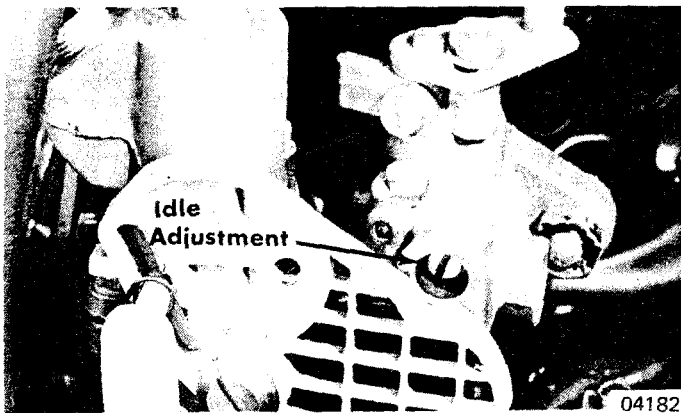

Figure 44. Low Speed Adjustment - 200-110-75-60-40-39
3. With the motor running at idle speed while in forward gear, turn the low speed mixture adjusting needle counterclockwise until motor starts to "load-up" or fire unevenly due to over-rich mixture. (Figure 44)